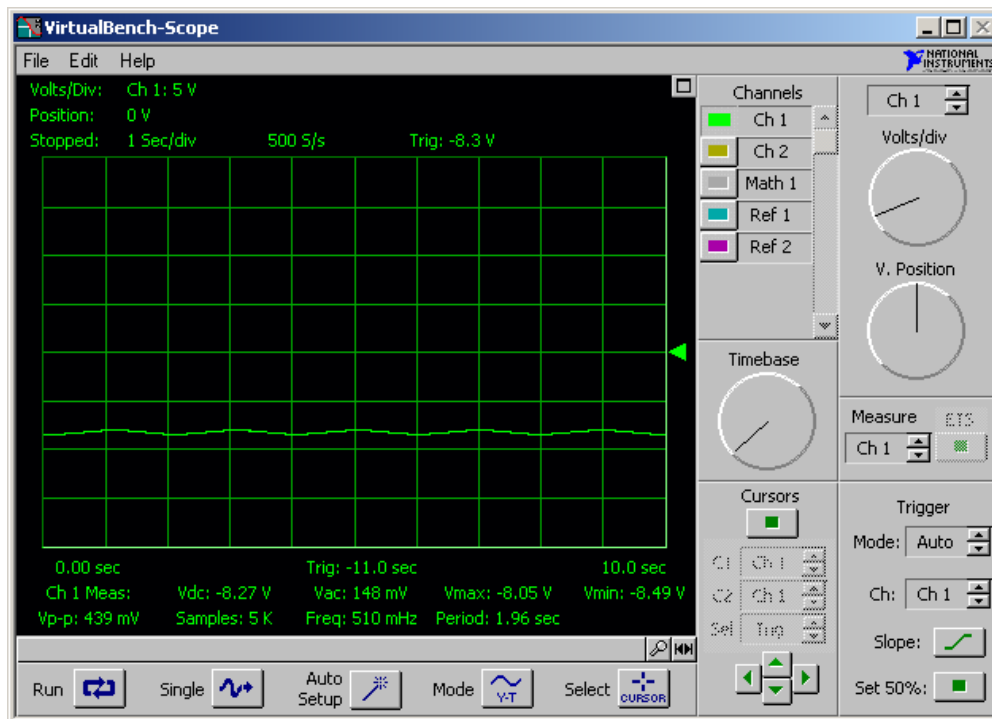

Figure 6. Small Oscillations with a Negative Average Value
3. Set the function generator to produce a low frequency sine wave (about 0.5 Hz) with an average value in the range of about -8 volts and a small oscillation less than 500 millivolts peak to peak (the numeric values for Vdc and Vp-p shown below your scope plot may be helpful to you). Use the AMPLITUDE and the DC - OFFSET (bias) controls on the function generator to obtain the waveform. Figure 6 shows a reasonable representation of the desired signal.
Also consider the quantization issue with your Excel simulation. For the quantization simulation, a simple sine wave may be taken as the input. Set the magnitude and frequency to match the specifications of Part 3 items 2 and 3. Plot your simulation results so that you can compare them directly to Figure 6 of this write-up (this is your ReportFigure 8) and to your detailed Excel plot from the laboratory data for Part 3 item 4 (call this ReportFigure 9).